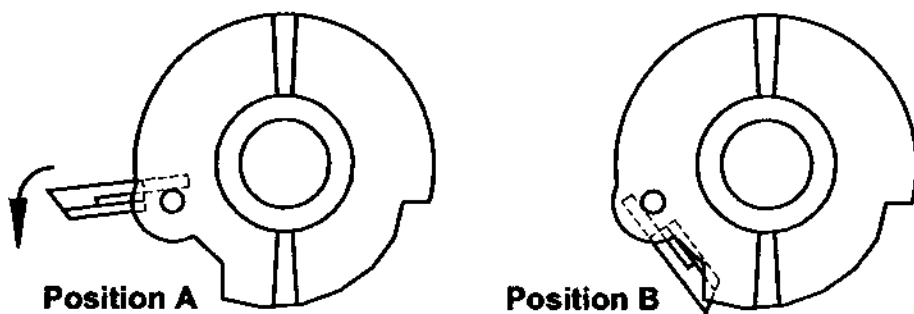

**Fig. 17**
- d. Place the scraper blades over the scraper blade holders so the holder pins fit into the blade notches as shown in Fig. 17.